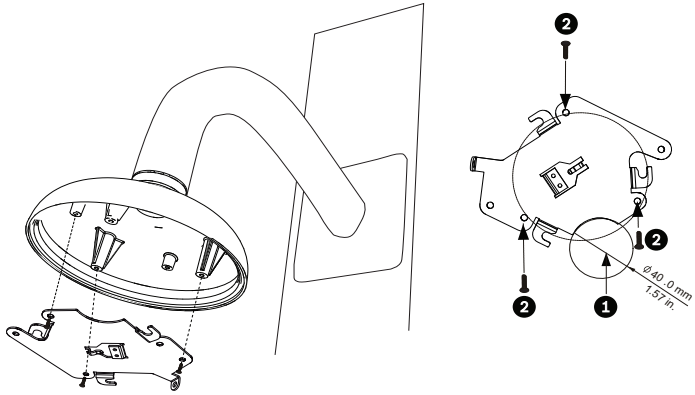

Figure 5.4 Attach Mounting Plate to Dome Cap
2. Route wires on side of mounting plate with crescent shaped cut-out (Ref. #2 *Figure 5.4*).